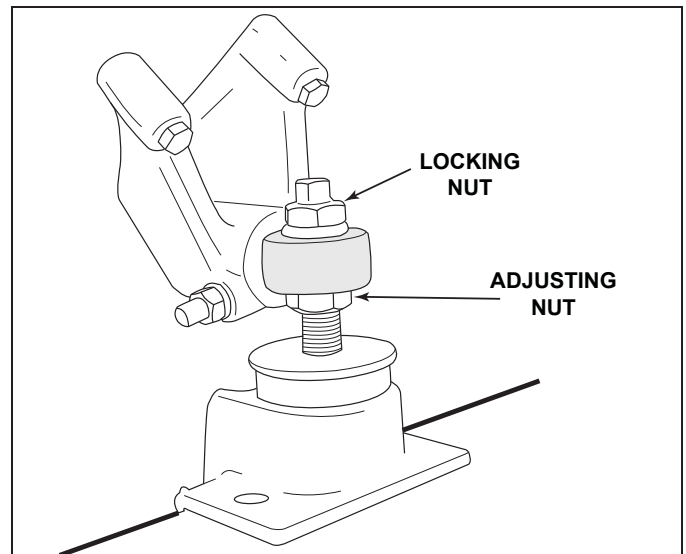

**Figure 11-27** Angular Alignment
**NOTICE:** Some propeller shaft couplings may not have a shoulder on the mating surface. On these installations, use a straight edge to check the centerline alignment (Figure 11-27).